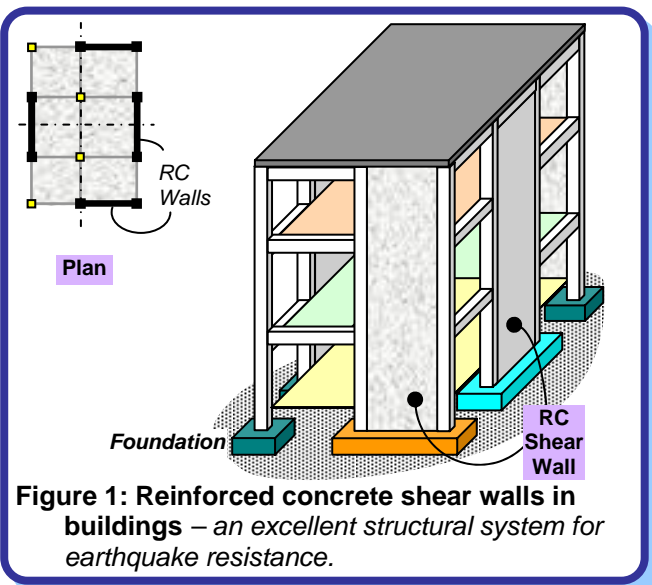

Figure 1: Reinforced concrete shear walls in buildings – an excellent structural system for earthquake resistance.
Reinforced concrete (RC) buildings often have *vertical plate-like* RC walls called *Shear Walls* (Figure 1) in addition to slabs, beams and columns. These walls generally start at foundation level and are continuous throughout the building height. Their thickness can be as low as 150mm, or as high as 400mm in high rise buildings. Shear walls are usually provided along *both* length and width of buildings (Figure 1). Shear walls are like *vertically-oriented* wide *beams* that carry earthquake loads downwards to the foundation.